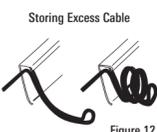

Figure 12
**Excess Cable:** If there is excess cable that needs to be gathered at one location, dress the cable routed from both directions so that a single loop is left extending from the storage location. Doubling the cable up from this point, form the cable into a coil. Storing excess cable using this method can reduce electronic interference (Figure 12).